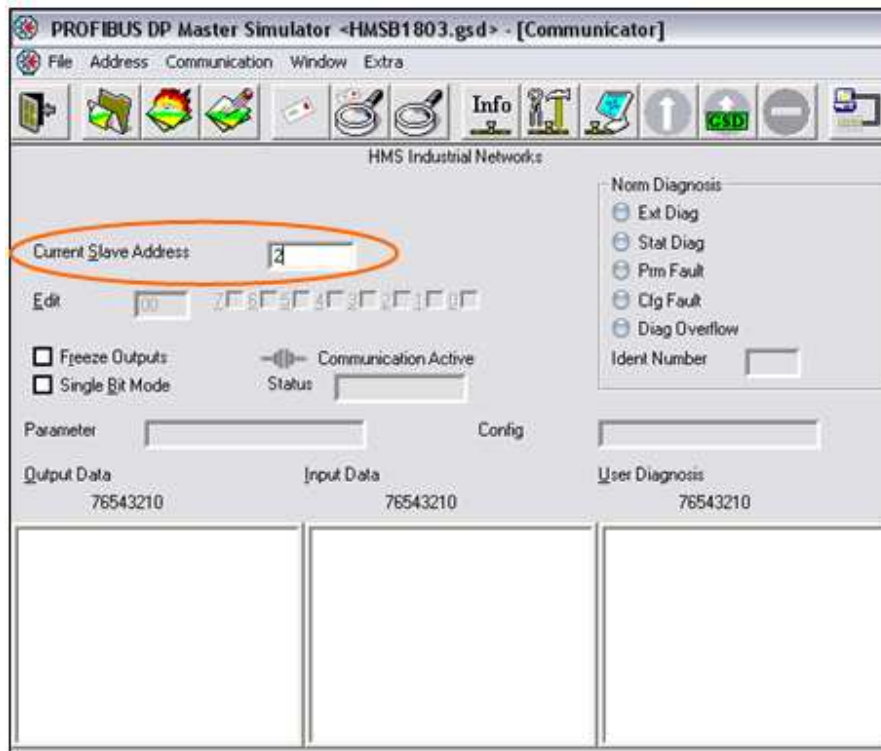

Figure 39 - ProfiBus slave settings
- 5- Click on the **Communicator Windows** button, set the **Current Slave Address** to 2, see figure 39.